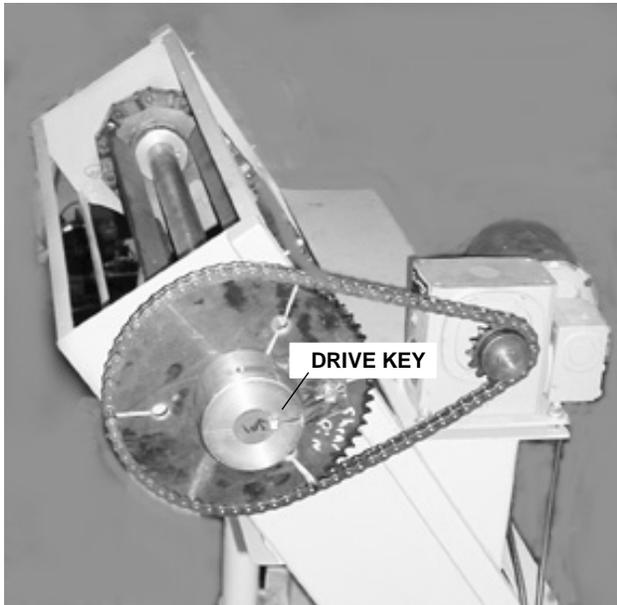

Figure 6. Drive Chain
3. Move the drive motor / speed reducer assembly forward on its adjustment screws to relieve tension on the drive chain. See Figure 6.
B. Drive sprocket turns but headshaft does not, check the drive key to ensure that it is not sheared (see Figure 6. If the key is not sheared, see "Replacement of Headshaft Shear Pin:"